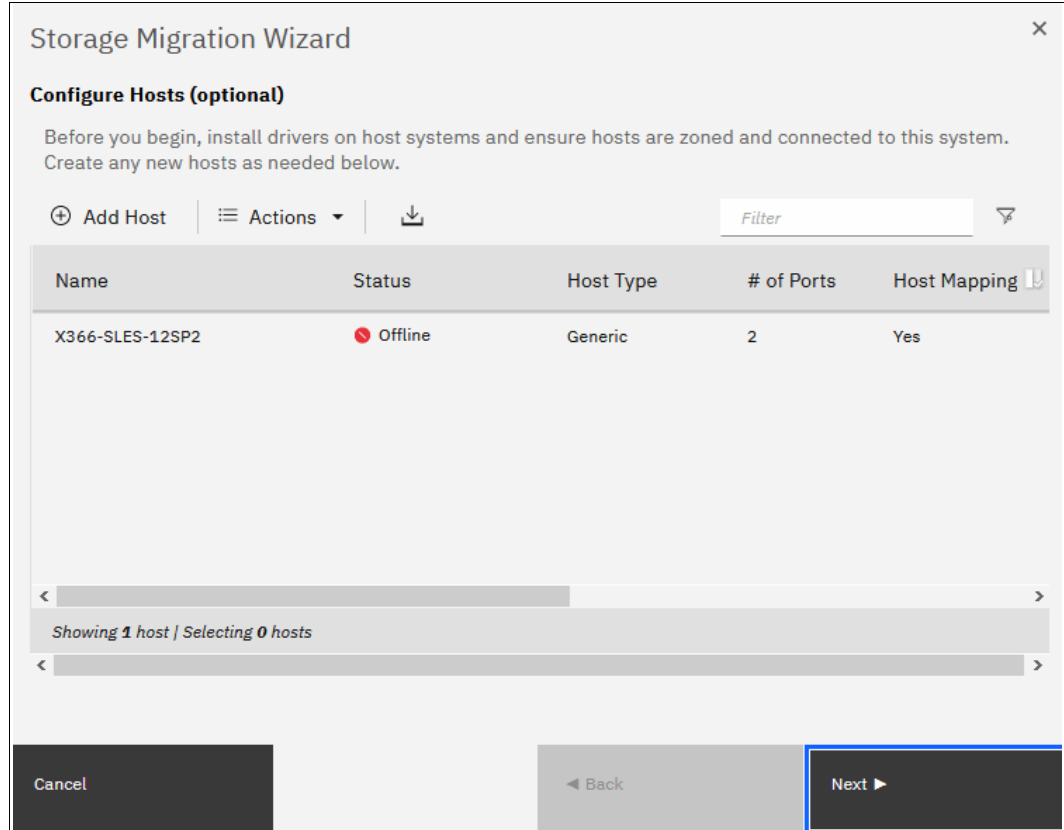

Figure 8-10 List of configured hosts to which to map the imported volume
9. The next window lists the host that is configured on the system to which you can assign the volumes or configure new hosts. This step is optional and can be bypassed by clicking **Next**. In this example, the host X366-SLES-12SP2 is already configured, as shown in Figure 8-10. If no host is selected, you can create a host after the migration completes and map the imported volumes to it.
11. Click **Add**. The host is created and now listed in the Configure Hosts window, as shown in Figure 8-10 on page 498. Click **Next** to proceed.